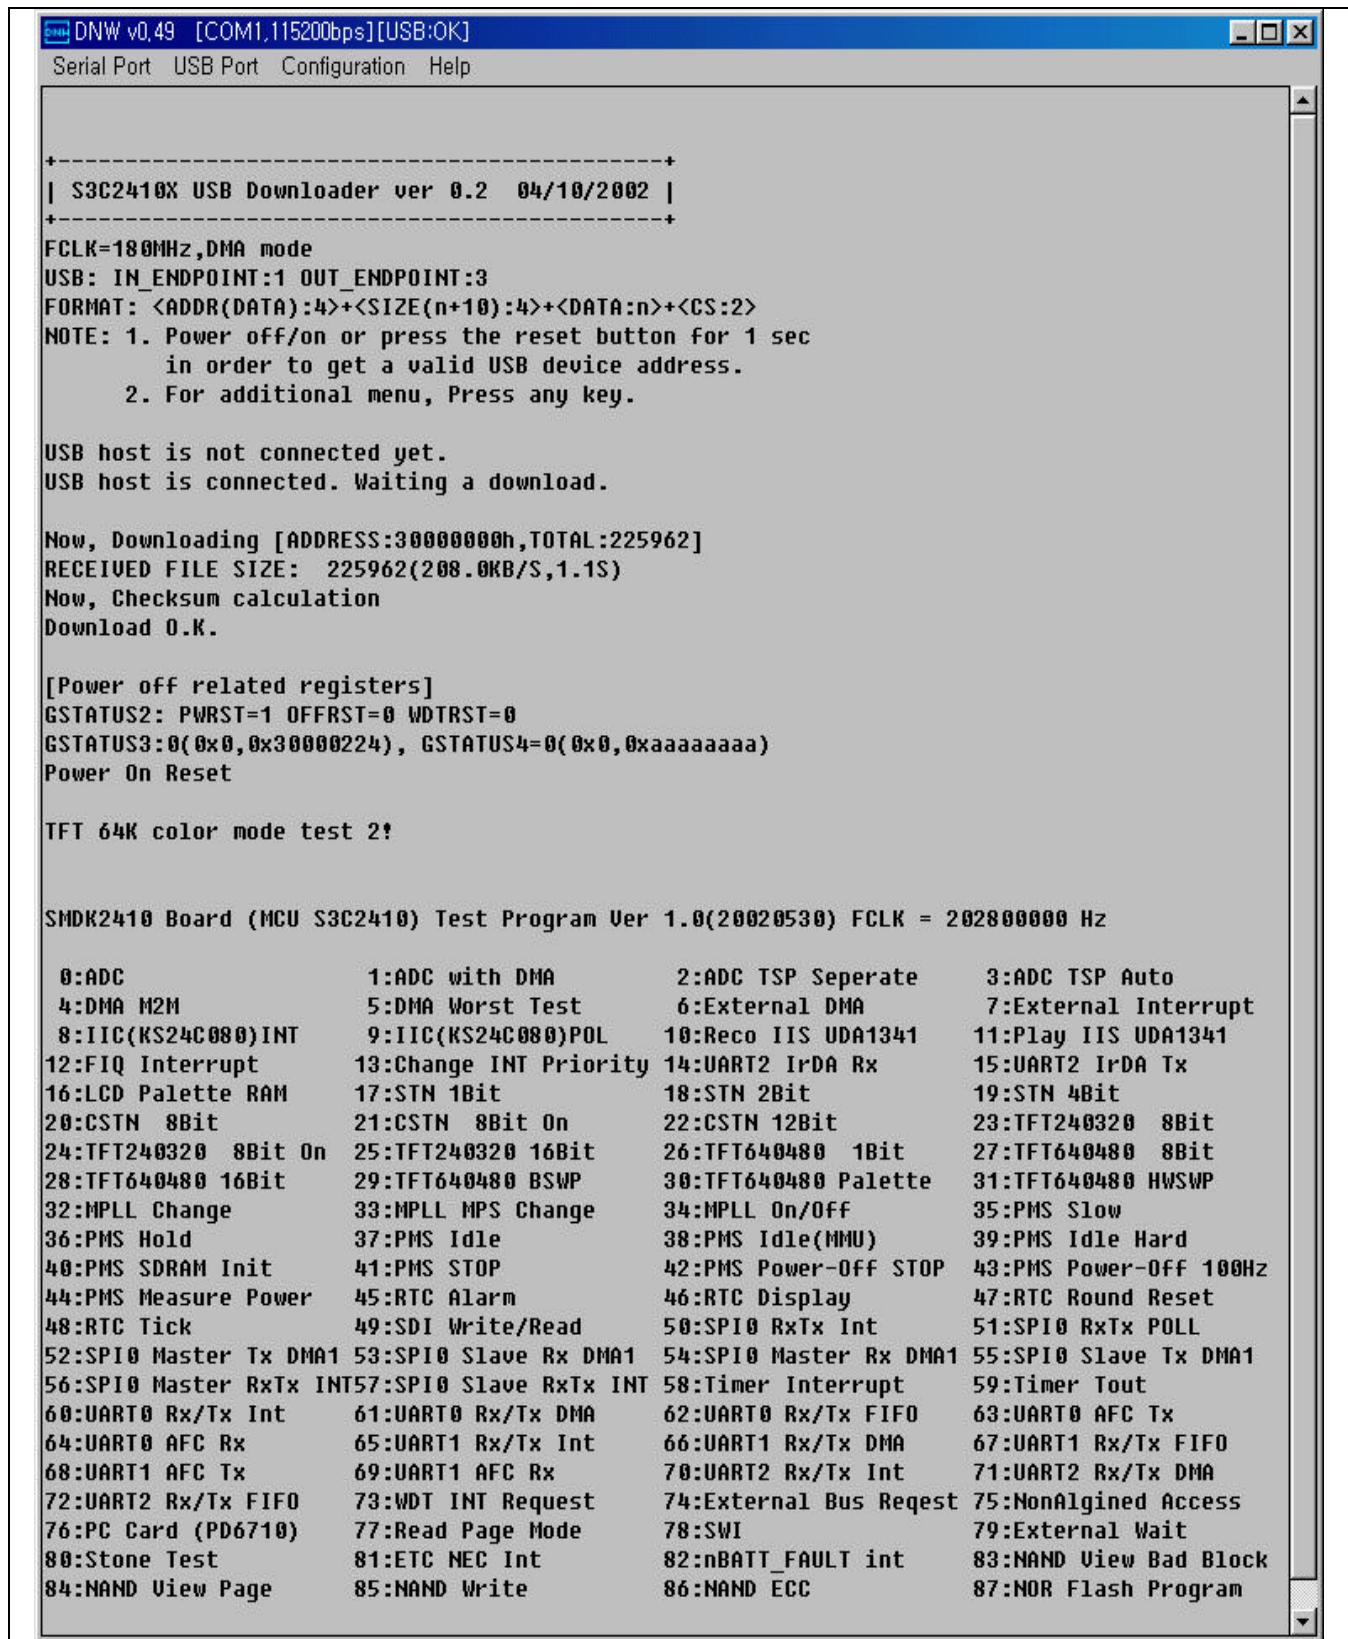

Figure 2-7. 2410TEST Execution After its Downloading through USB
2. Select 2410TEST.BIN (See Figure 2-7).